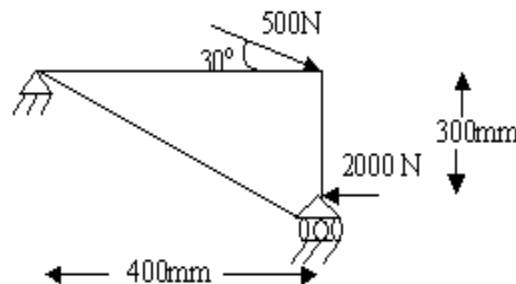

Figure 3
3. Estimate the displacement vector, stresses and reactions for the truss structure as shown below Figure 3: